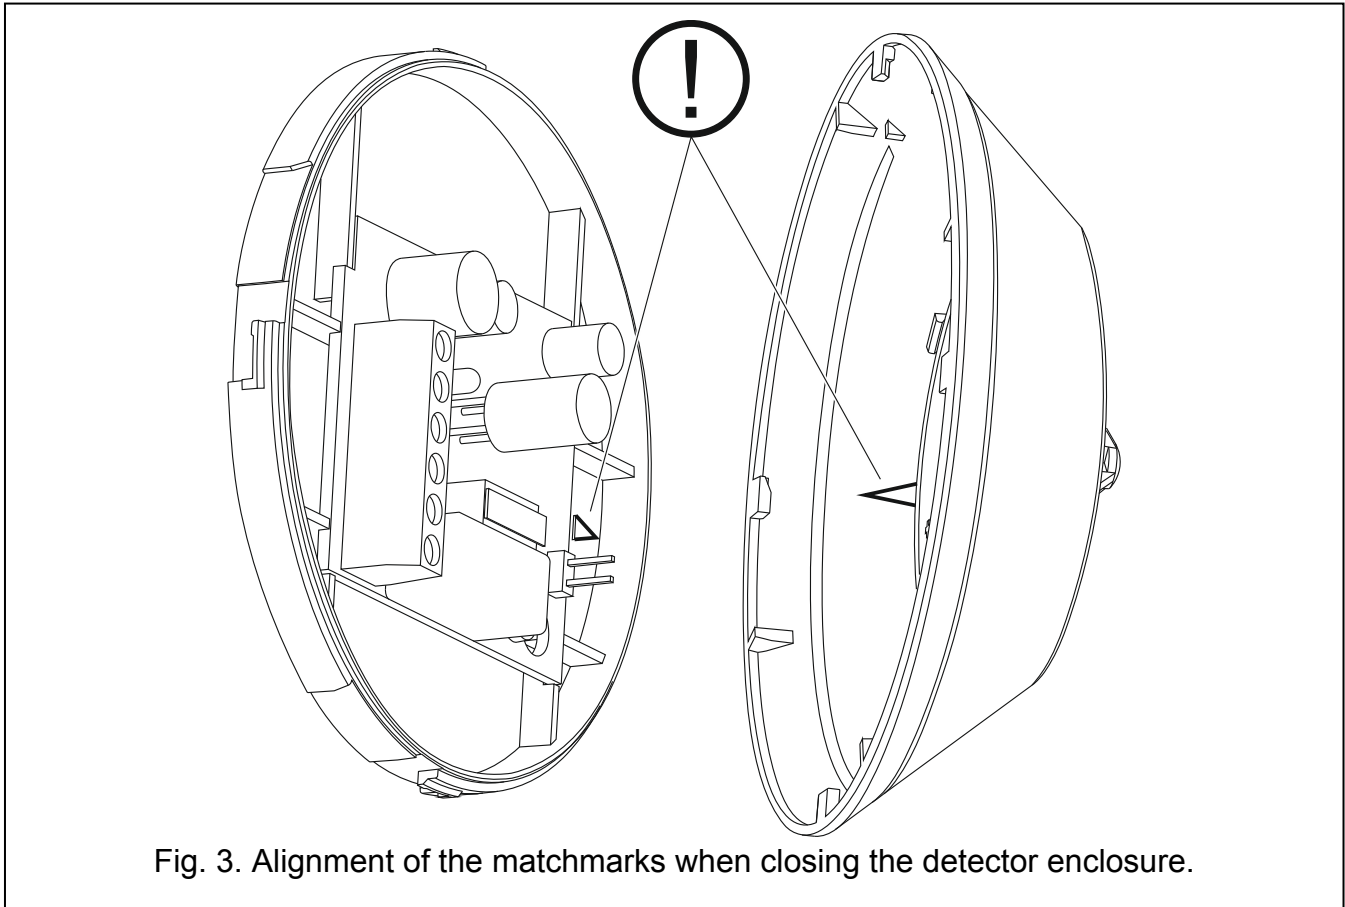

Fig. 3. Alignment of the matchmarks when closing the detector enclosure.
9. Close the detector enclosure, making sure that the matchmarks on the cover and on the enclosure base are aligned (see Fig. 3).